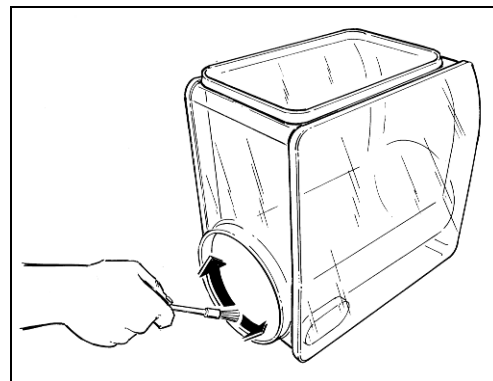
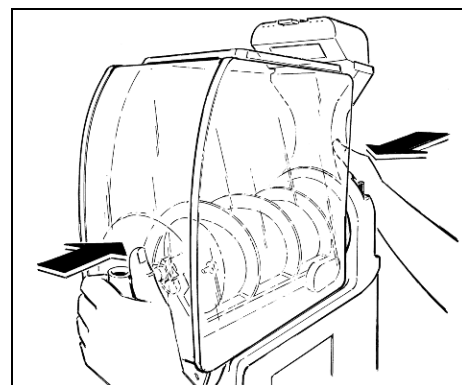

Fig. 25
Fig. 26
- Mount the bowl back on, positioning it into place, and making sure that it has a tight hold on its gasket (see figure 26). To facilitate this procedure, we also suggest that the rear part of the bowl be moistened at the point in which it fits together with its sealing (fig.25).